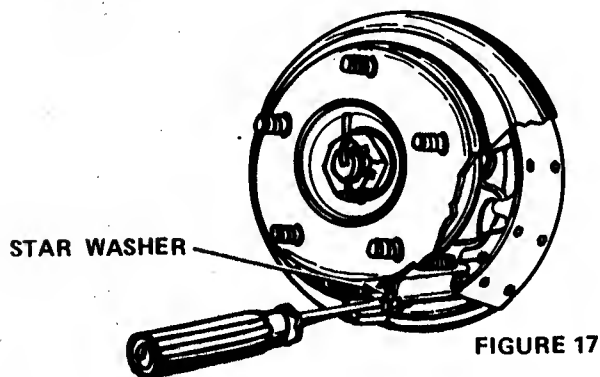

FIGURE 17
3. Insert a screw driver in the slot in the brake drum (See Figure 17) and tighten the star washer until the brakes are snug and the drum does not turn. Back off the star washer one full turn.